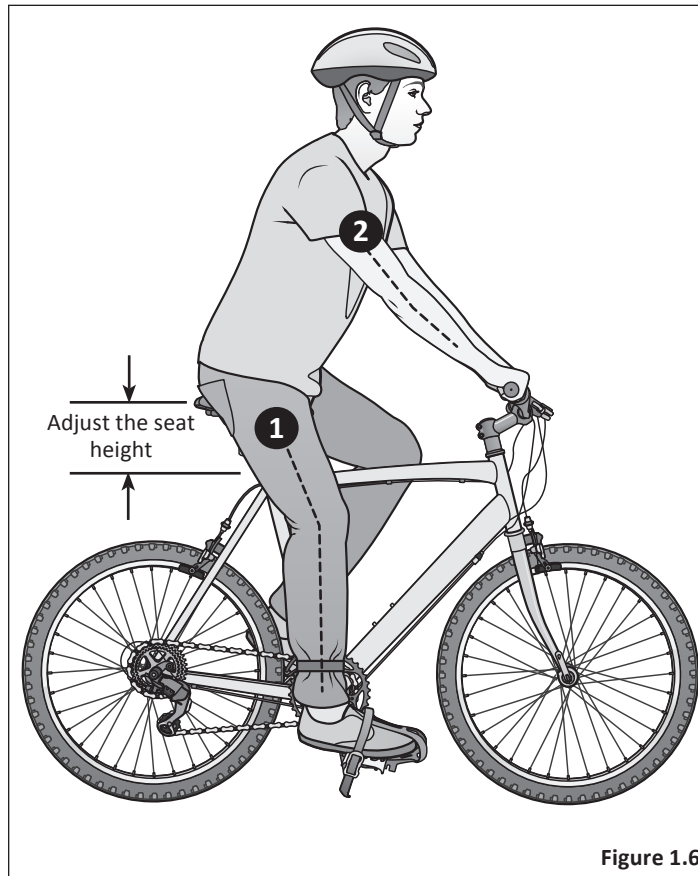

Figure 1.6
- 1 Your legs should be almost completely straight when the pedal is in the down most position, just a slight bend in the knee. **Figure 1.6**